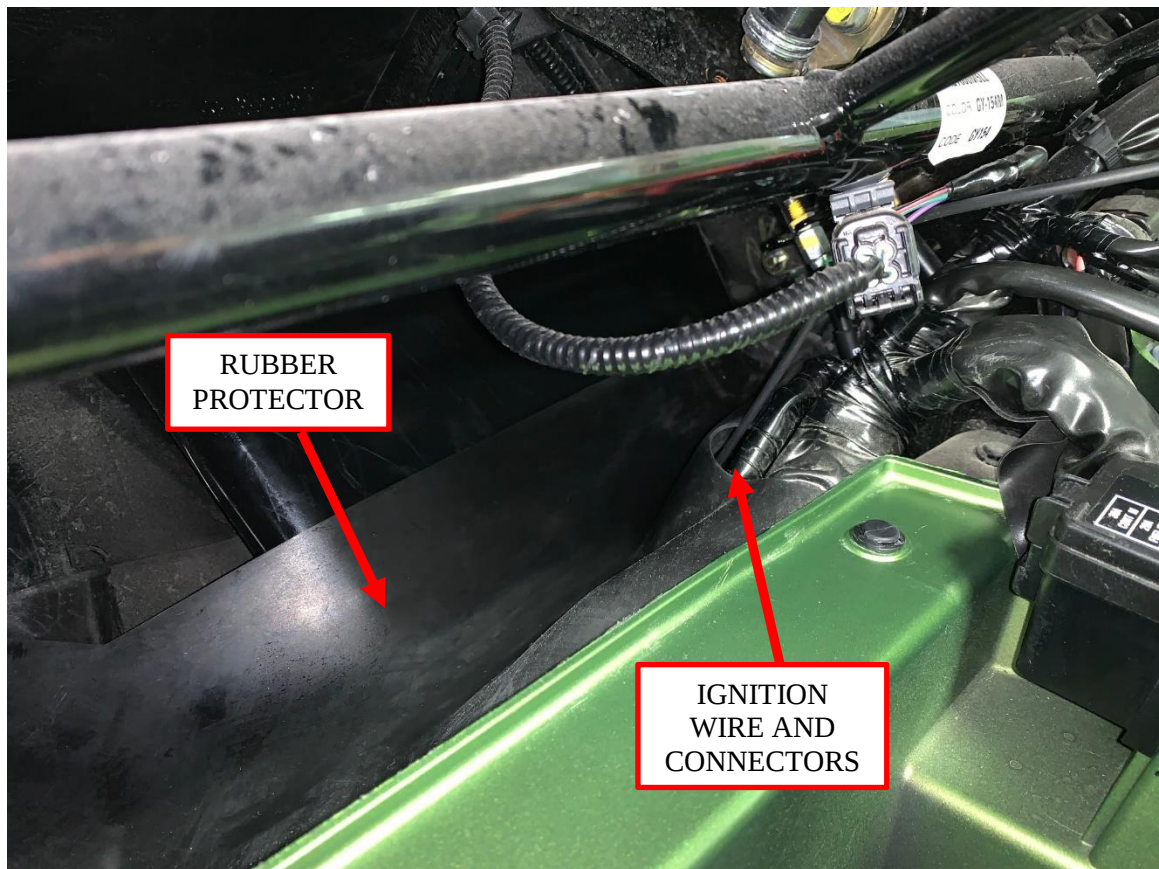
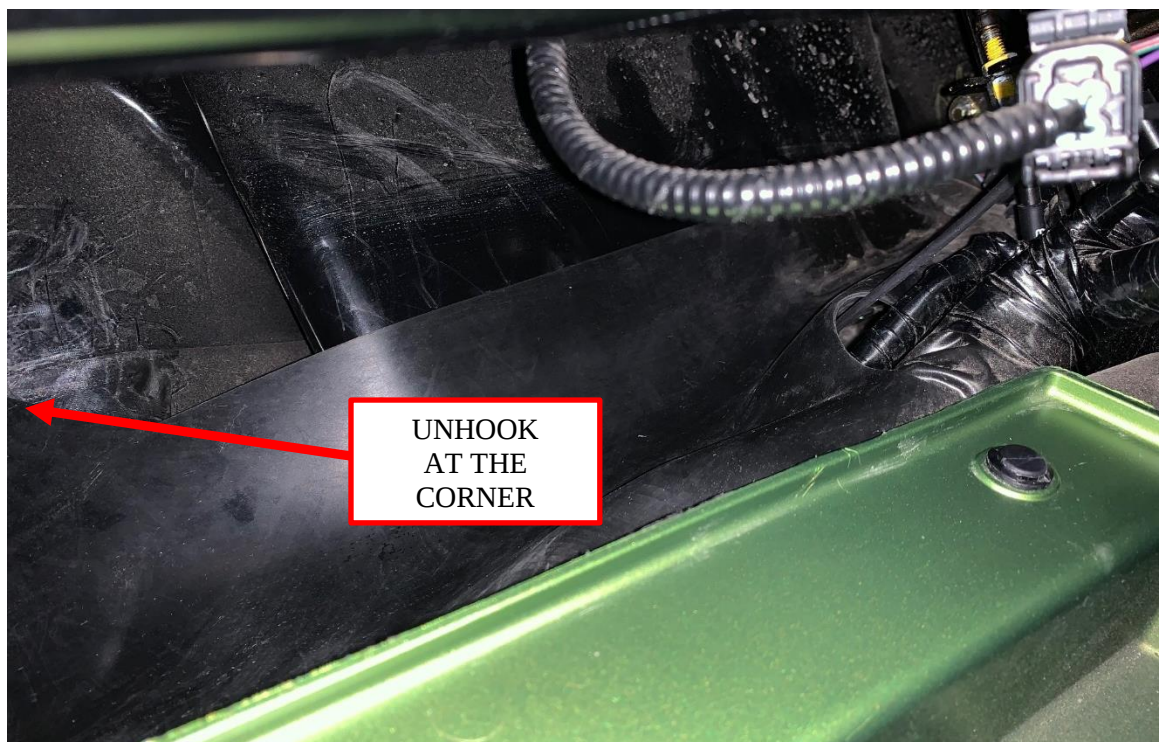

Figure 15: Ignition wire and connector routing.
Figure 16: Rubber protector access location.
15. Run the pink ignition wire, with the two attached connectors, through the hole in the rubber protector (with the factory wire harness). The connectors are accessible under the rubber protector by lifting the left rear corner of the rubber protector. See Figure 15 and Figure 16.